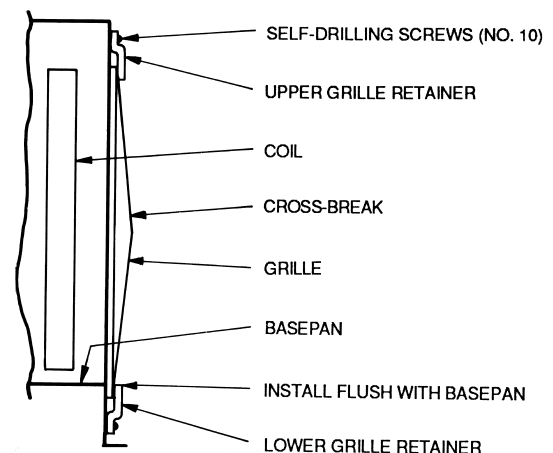

Fig. 2 — Installing Grille
4. Push upper part of grille flush with unit. Position upper grille retainer in place with offset over grille, and secure with self-tapping screws. See Fig. 2.